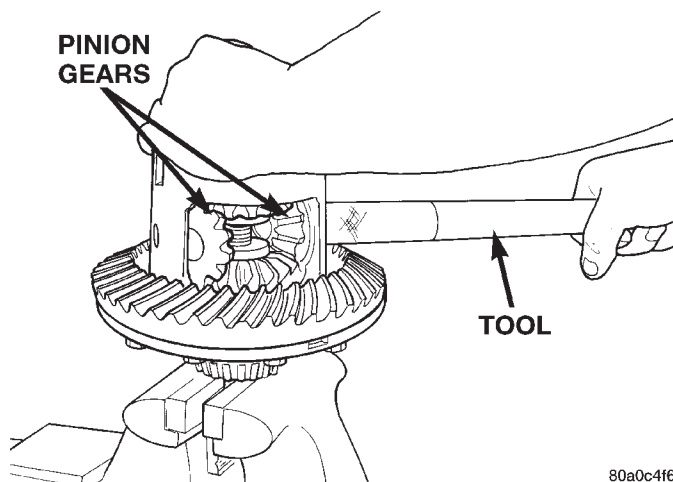

Fig. 59 Pinion Gear Removal
(11) Insert Turning Bar C-6960-2 in case (Fig. 59).
(12) Loosen the Forcing Screw C-6960-4 in small increments until the clutch pack tension is relieved and the differential case can be turned using Turning Bar C-6960-2.
(13) Rotate differential case until the pinion gears can be removed.